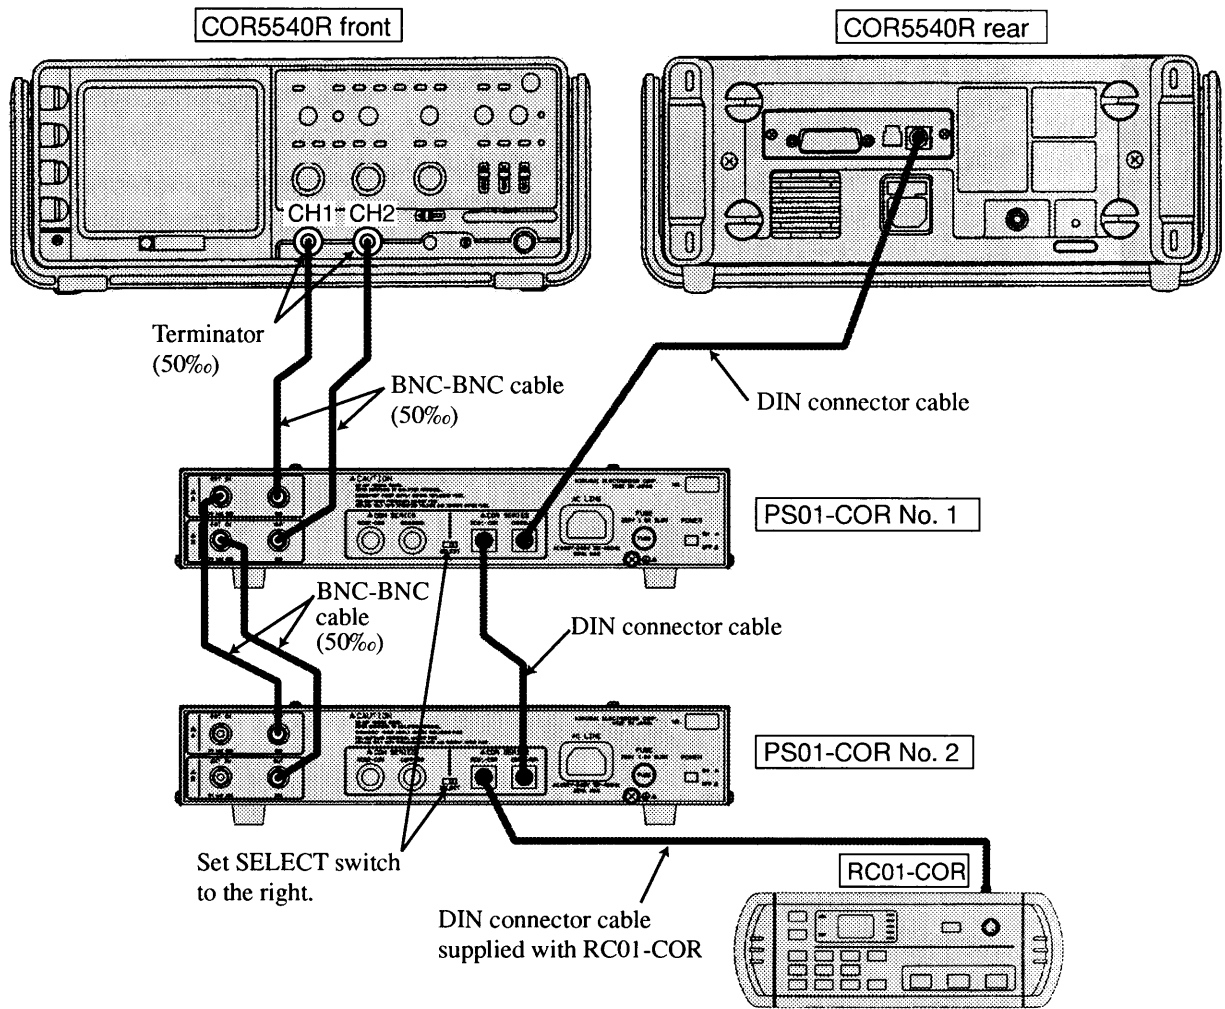

Fig.1-4 System using two PS01-COR units
See Fig. 1-4.
- Fig. 1-4 shows a case where two PS01-COR units are connected. However, up to 4 units can be connected in the same way.
- ① Check that the POWER switches of the COR5540R Oscilloscope and all the PS01-COR Probe Selectors are OFF.
- ② Set the SELECT switches on the rear panel of all the PS01-COR's to the right (indicated as COR SERIES).
- ③ Connect an supplied BNC-BNC cable (50Ω) from A OUT on the PS01-COR No. 1 rear panel to CH1 of the COR5540R. Do not fail to connect an supplied terminator (50Ω) to the input side of the COR5540R.
- ④ Similarly, connect an supplied BNC-BNC cable (50Ω) from B OUT on the PS01-COR No. 1 to CH2 of the COR5540R. Do not fail to connect an supplied terminator (50Ω) to the input side of the COR5540R.
- ⑤ Connect an supplied DIN connector cable from a round DIN connector on the PS01-COR No. 1 rear panel (indicated as COR5540R) to a round DIN connector on the COR5540R rear panel (indicated as REMOTE).
- ⑥ Connect an supplied BNC-BNC cable (50Ω) from A OUT of PS01-COR No. 2 to A EXT IN of PS01-COR No. 1.
- ⑦ Similarly, connect an supplied BNC-BNC cable (50Ω) from B OUT of PS01-COR No. 2 to B EXT IN of PS01-COR No. 1.
- ⑧ Connect a DIN connector cable from a round DIN connector on PS01-COR No. 1 (indicated as RC01-COR) to a round DIN connector on PS01-COR No. 2 (indicated as COR5540R).
- ⑨ Connect the RC01-COR connector cable to a round DIN connector on PS01-COR No. 2 (indicated as RC01-COR).